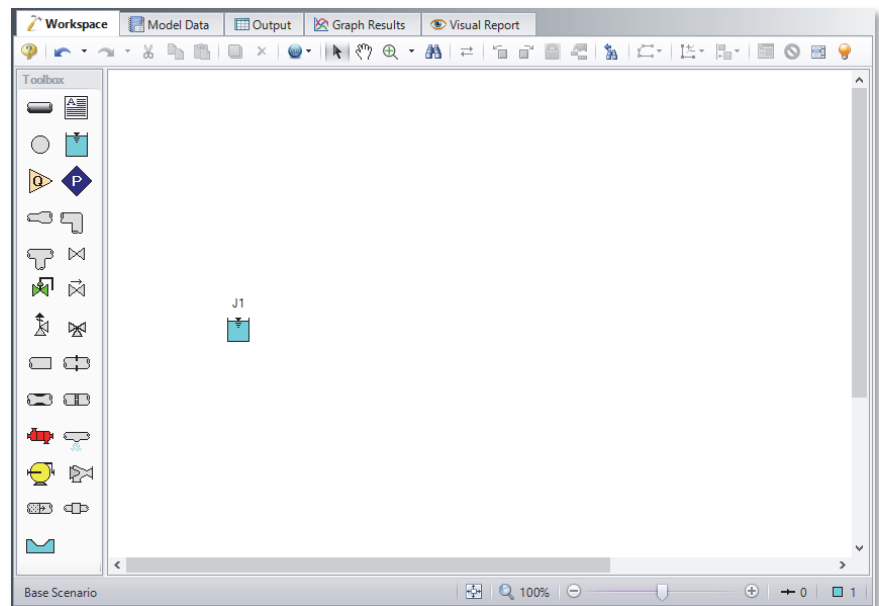

Figure 2.5a Pump Sizing model with first junction placed
- **To start, drag a Reservoir junction from the Toolbox and drop it on the Workspace.** Figure 2.5a shows the Workspace with one reservoir.